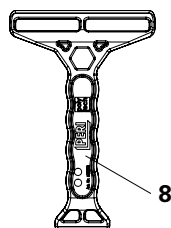
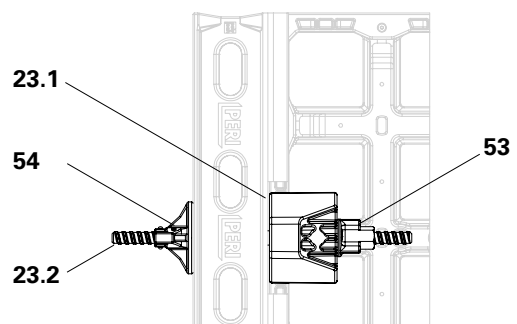

Fig. A3.08e
Fig. A3.08d
6. Tighten with the DW 15 wingnut counterplate (**54**) from the rear by hand or with the DUO cleaning device (**8**). See section A3, panel connections, tool. (Fig. A3.08d + Fig. A3.08e)